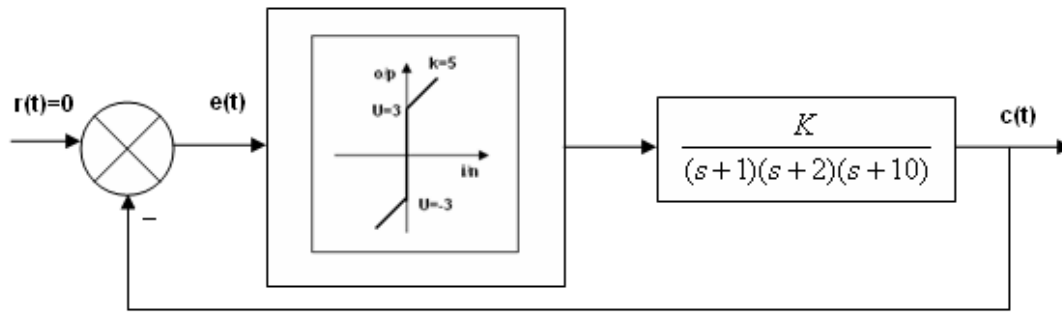

Fig.Q3A
- 3A. For the system shown in Fig.Q3A, the describing function is  $N = k + \frac{4u}{\pi x}$ , predict the range of  $K$  (linear system) for which limit cycle exist iii) determine the amplitude and frequency of the limit cycle for  $K=10$ . Also specify whether it is stable or unstable limit cycle. Why?